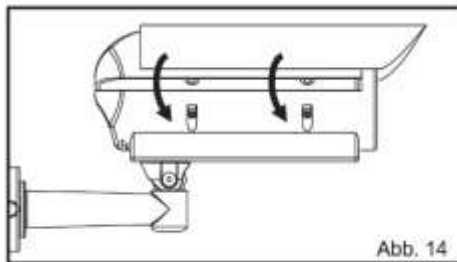

Abb. 14
- Close the upper housing part and tighten the housing (fig. 14 and 15).